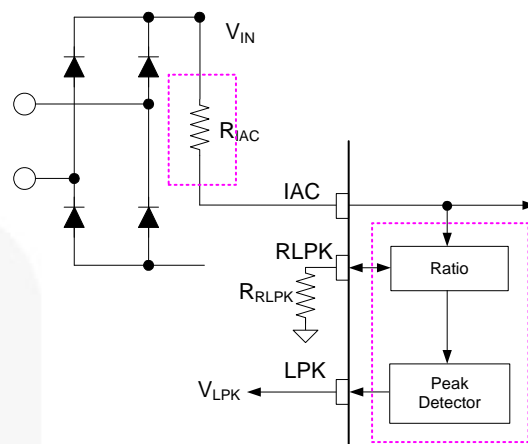

Figure 29. Relationship of  $V_{IN.PK}$  to  $V_{LPK}$
The relationship of  $V_{IN.PK}$  to  $V_{LPK}$  is shown in Figure 29. The peak detection circuit recognizes the  $V_{IN}$  information from  $I_{AC}$ .  $R_{LPK}$  sets the ratio of  $V_{IN}$  to  $V_{LPK}$  via a resistor  $R_{RLPK}$  as described in Equation (8). The target value of  $V_{LPK}$  is one percent (1%) of  $V_{IN.PK}$ . The maximum  $V_{LPK}$  cannot exceed 3.8 V when system operation is at maximum AC input.